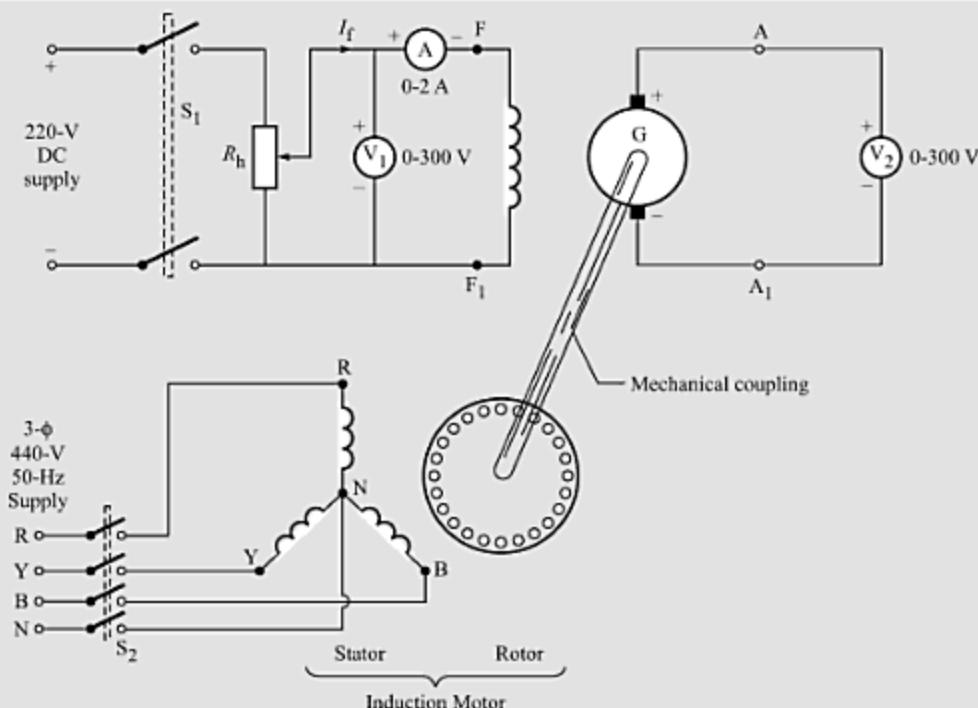

Fig. 16.20
Circuit Diagram The circuit arrangement is shown in Fig. 16.20.
For plotting the OCC of a shunt generator, its field winding is separately excited, as shown in Fig. 16.20. The generator is driven by a three-phase induction motor (or any other prime-mover) at a fixed speed and its armature terminals are left open to measure the induced emf E by a high-resistance voltmeter V_2 .
- Make the connections as shown in Fig. 16.20. The dc generator is mechanically coupled to the 3-phase induction motor. Field winding terminals F-F₁ are connected to 220-V dc supply through a rheostat. The voltmeter V_2 is connected across the armature terminals A-A₁.